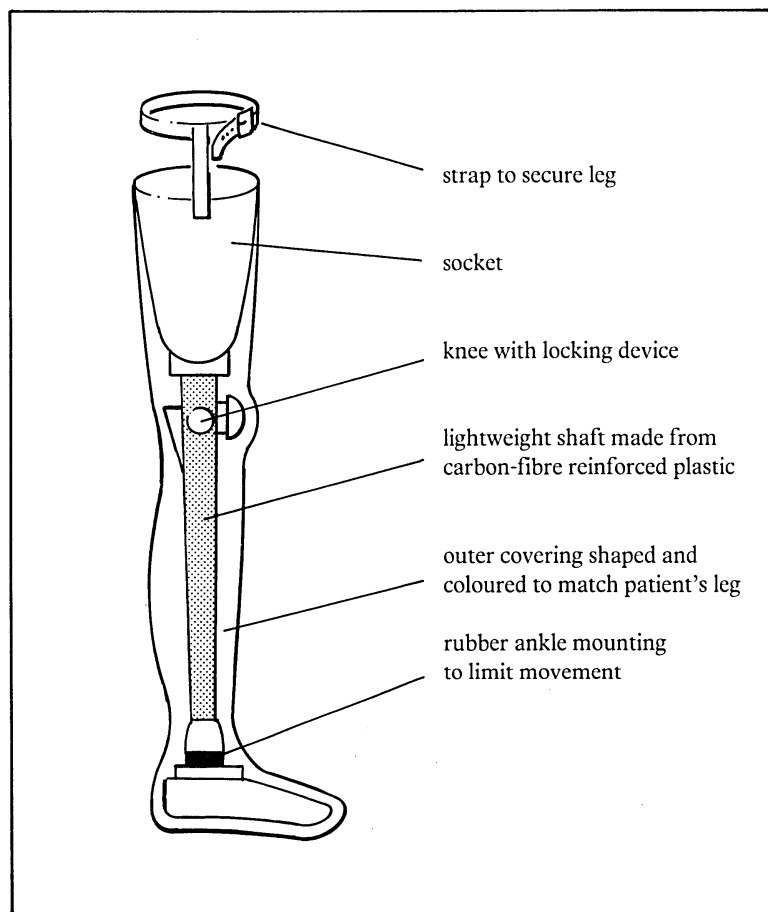

Figure 4 An artificial leg for a person with an above-knee amputation
The answer is to make a leg that can bend, but with a knee that locks when weight is on it. The knee must be able to unlock and bend easily when the person sits down. Figure 4 shows an artificial leg for a person who has had an amputation above the knee.
- Suppose an artificial leg is designed for a below-knee amputation. In what ways would it be different from the one in Figure 4?
- Which parts of the leg in Figure 4 would have to be tailored to suit each different patient? Which parts would be standard for every patient?